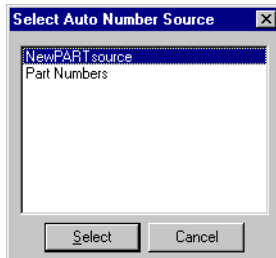

Figure 4-13: The Select Auto Number Source dialog box, Agile CM
- If more than one autonumber source is designated, the **Select Auto Number Source** dialog box appears, asking you to select the autonumbering scheme for the Item. (See Figure 4-13.) Select the new autonumbering scheme for this Item, then click **Select**. Go to Step 5.